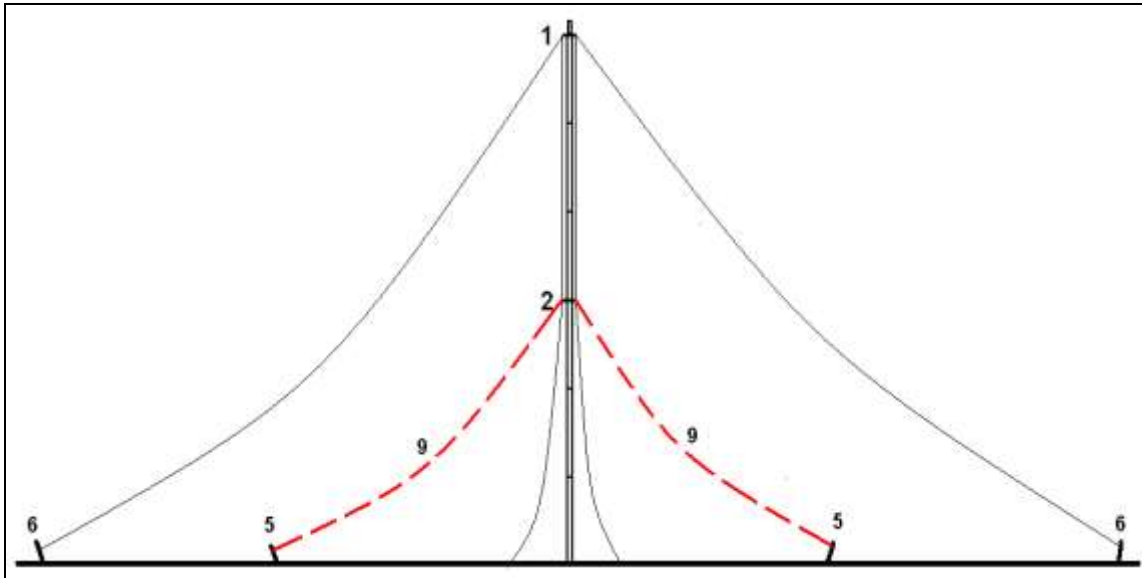
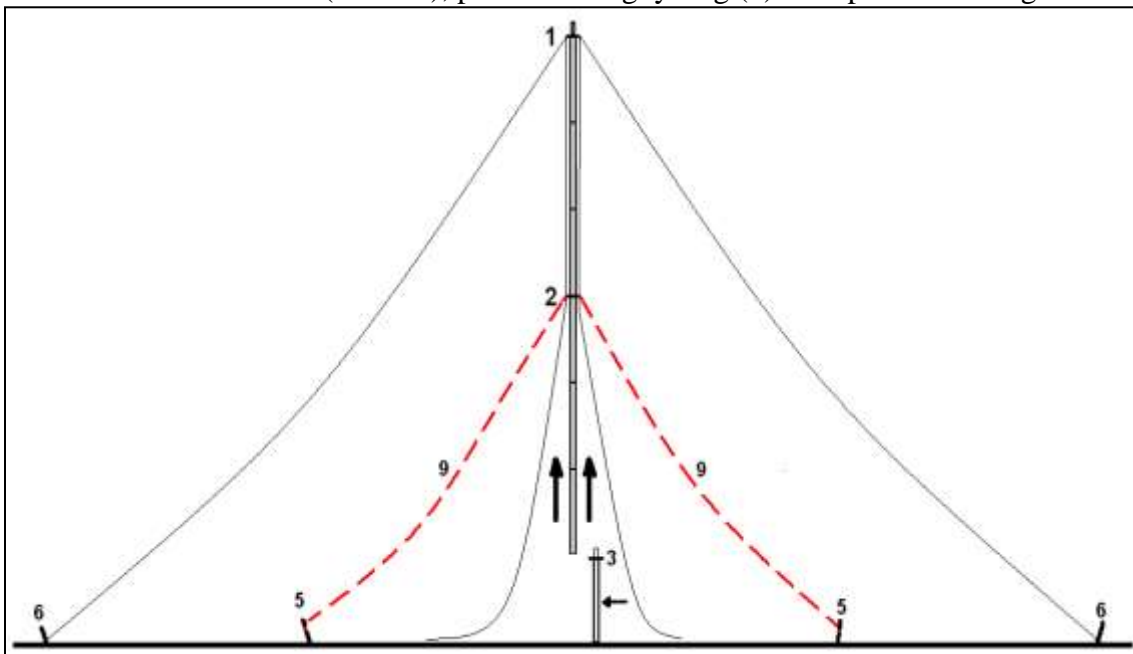

Figure 4. Securing the six sections of mast using the loops wires and ropes loosely.
Figure 5. Lifting the six sections to insert the seventh section with third ring (3) on its top.
Once in the vertical position, tie the loops wires to the outer stakes (6) and the 32 ft (9.75 m) ropes (9) to the inner stakes (5) as shown in Figure 4. The ropes and wires should be loose enough to allow lifting the mast at least 4 ft (1.22 m) to have enough room to insert the seventh mast section underneath the assembly. Before raising the mast to insert the next section (seventh), put the third guy ring (3) on top of it. See Figure 5.